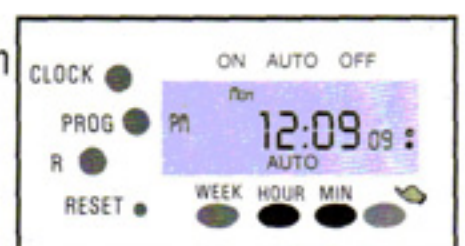

Figure 15
- 4.1 Press **HOUR** and **MIN** at the same time. The symbol "☀" will be displayed on the right hand side of the timer (See Figure 15). This indicates that daylight saving time has been programmed and the timer will now add one hour to the clock. Press **HOUR** and **MIN** a second time to disable daylight saving time. This function will work only in clock mode.